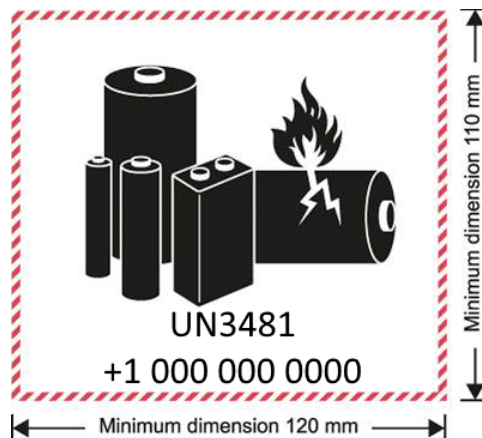

Figure 30. Li-ion Battery Shipping Label
As of January 2017, the Detective X with batteries installed and packed in the ORTEC-supplied transport case does not require any special labeling or shipping considerations on common carriers (e.g., FedEx, UPS, DHL) because the device contains only two Li-ion batteries with battery capacity less than 100 Wh each. Up to two (2) spare batteries may also be shipped in the transport case by inserting them in the cutouts provided in the foam lining, if an additional Lithium Battery Mark is applied to the transport case, as shown in Figure 30. The bottom of the label should list the telephone number of the person who is responsible for the package and can be contacted to answer questions that may arise during shipping. Compliant labels are available from shipping supply vendors.